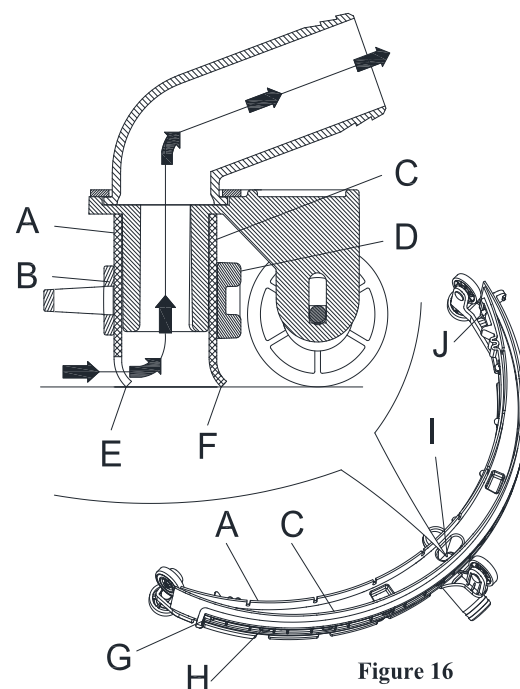

Figure 16
2. Check the condition of the front (A, Figure 16) and rear (C) blades, ensuring there are no cuts and tears; if necessary, replace them as shown below. Check that the front corner (F) of the rear blade is not worn; otherwise, turn the blade to replace the worn corner with one of the three remaining intact corners. If the other corners are worn too, replace the blade according to the following procedure:
- Using the tab (G), release and remove the elastic strap (D) from the fasteners (H), then turn or replace the rear blade (C).
- Install the rear blade in the reverse order of removal. Fasten the elastic strap (D) to the fasteners (H) starting from one side. To make the fastening procedure easier, secure the fasteners one at a time, by locking the strap before the fastener with one hand and pulling it with the other hand.
- Remove the fastening strap (B) by disengaging it from the fasteners (J).
- Replace (or overturn) the front blade (A), then reinstall the fastening strap (B).